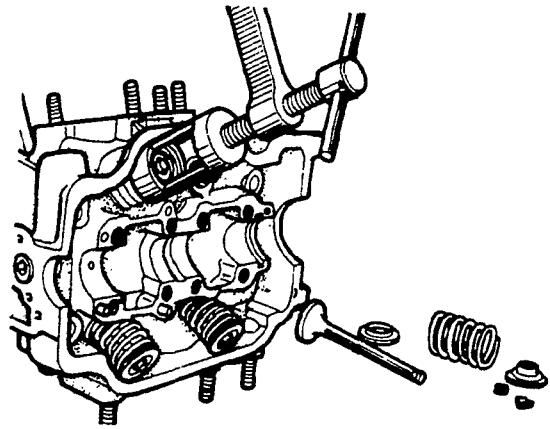

FIGURE 9-16. REMOVING VALVES AND PARTS
3. Compress the valve spring using a commercially available tool (Figure 9-16). Remove the valve spring retainer lock, the valve spring retainer, valve spring and valve. Attach a tag to removed valves to clearly indicate the cylinder number when re-assembling.